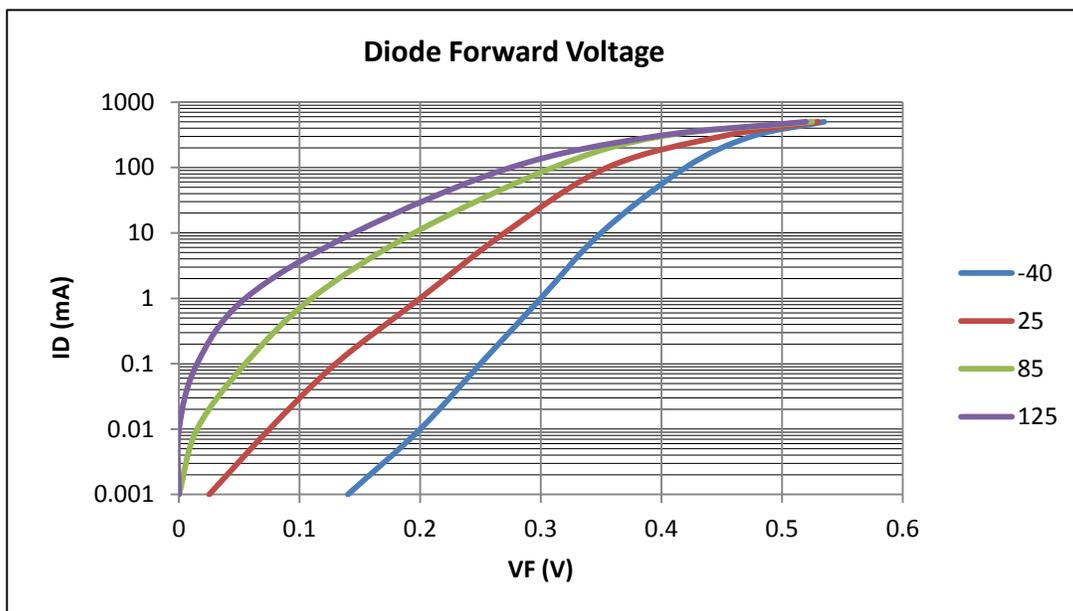
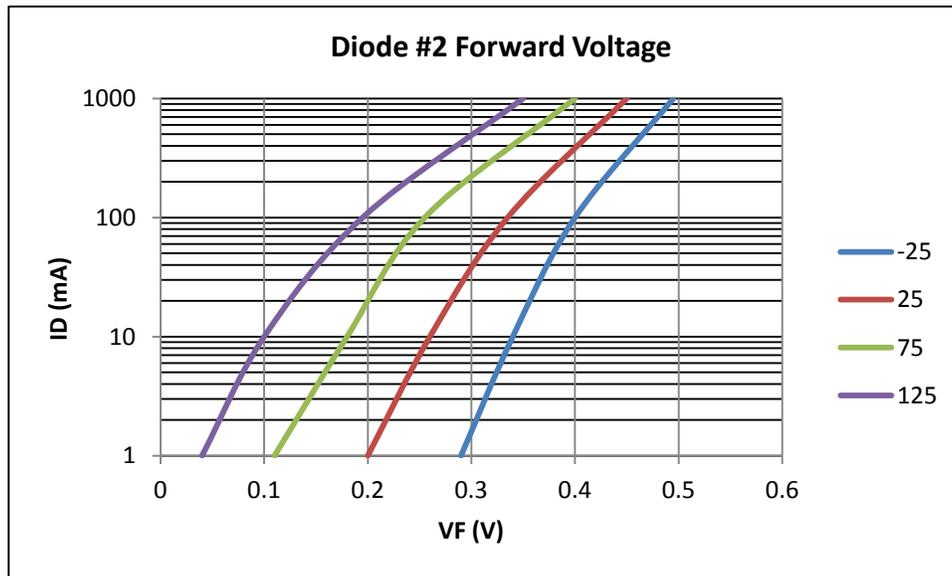

Figure 2. Diode #1 ID vs VF
Figure 3. Diode #2 ID vs VF
2.3.1 Diode Resistance (RD)
Typical Schottky VF is in the 0.2-V to 0.5-V range. Compare that to a PN junction diode with a 0.6-V to 1-V forward drop. As seen in Equation 4, VF is composed of an ideal term (VD) and the diode series resistance (RD) multiplied by the diodes forward current (ID). The VD term dominates at low currents. Typical VF curves for diode #1 and diode #2 are shown in Figure 2 and Figure 3. These plots are typically given in diode datasheet with the forward voltage on the X axis and forward current on the Y axis.